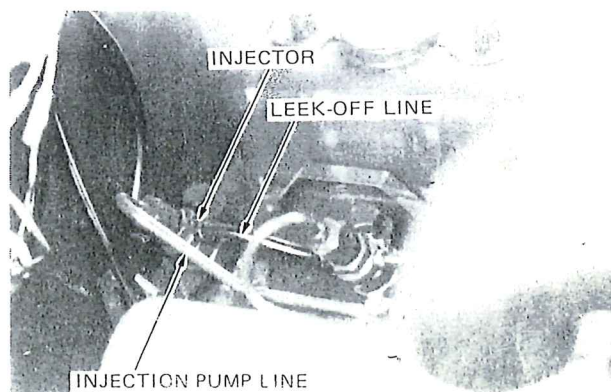

Figure 58 — Fuel Injector Leak-off Line
1. Clean all loose dirt from around the injectors and lines. Disconnect the leak-off lines from the injectors, Figure 58.
3. Install the leak-off line, Figure 58. Tighten the leak-off line nuts to 3 – 4 kg-m.